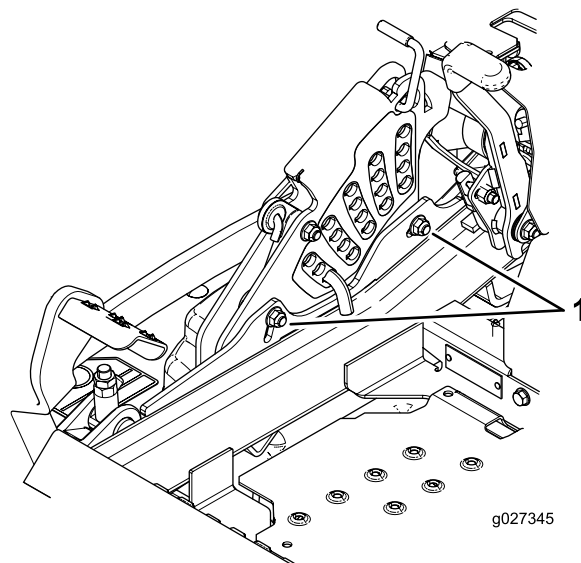

Figure 92
11. To adjust the single-point system, loosen the 2 bolts at the bottom of the height-of-cut plate (Figure 92).
13. Tighten the 2 bolts at the bottom of the height-of-cut plate (Figure 92).